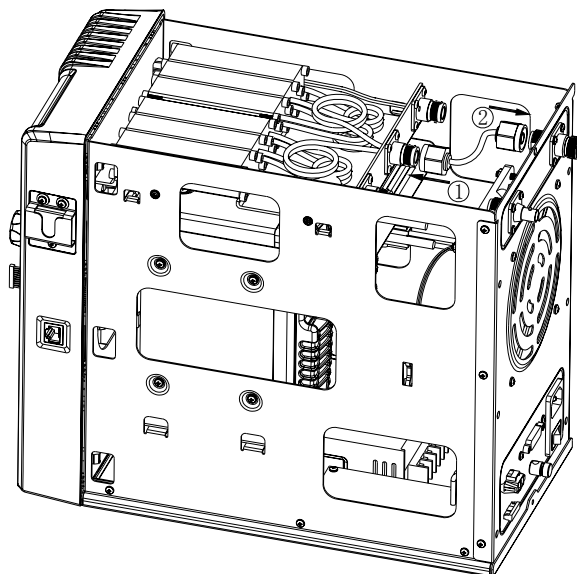

Figure 4
When using duplexer, RF cable is required to connect the antenna connector on duplexer ① with the antenna adaptor (N type) on the back of TR-800 ②, shown as Figure 4, this antenna connector is used for both transmitting and receiving.